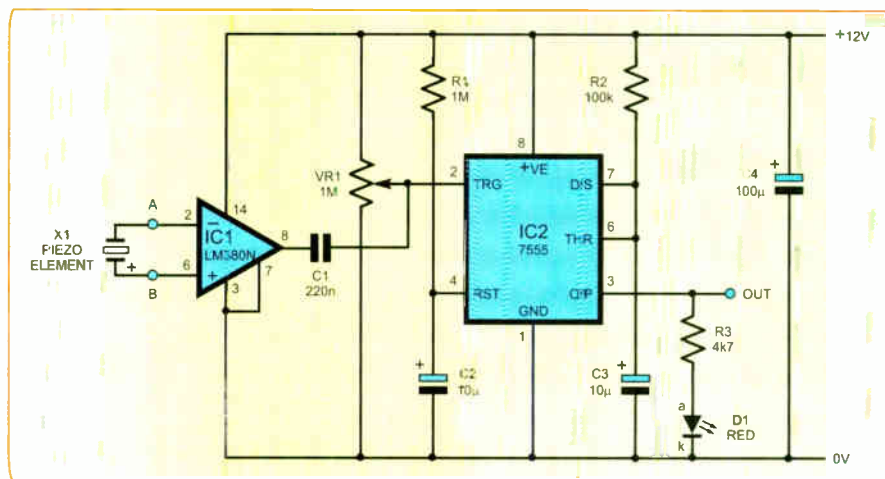

Fig.1. Complete circuit diagram for the Super Vibration Switch
**T**HE circuit in Fig.1 represents a substantial increase in sensitivity compared to other designs. It is designed as a drop-in replacement for the traditional vibration switch. An indicator light D1 indicates that vibration has been detected, and it has three terminals, +12V, 0V, and OUT. OUT goes logic "high" when vibration is detected.
The Super Vibration Switch uses a cheap, standard piezo element which flexes slightly in response to vibrations, thus creating a minute electrical output. At the heart of its "front end" (see Fig.1) is the veteran LM380N. This IC is chosen for its lightly biased inputs, its automatically centred output, and its internal positive feedback, which enormously amplifies the electrical output of piezo element X1. Not only this, but X1 is isolated from the rest of the circuit, so that supply decoupling is not a critical issue.